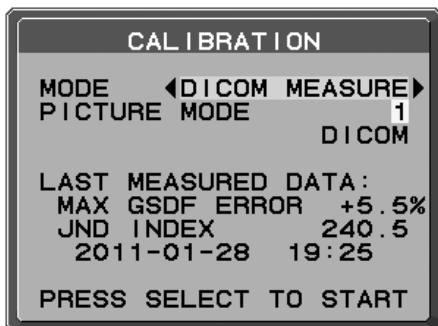

Figure D.1
1. Use “LEFT” or “RIGHT” to select DICOM MEASURE in the MODE selection (**Figure D.1**).